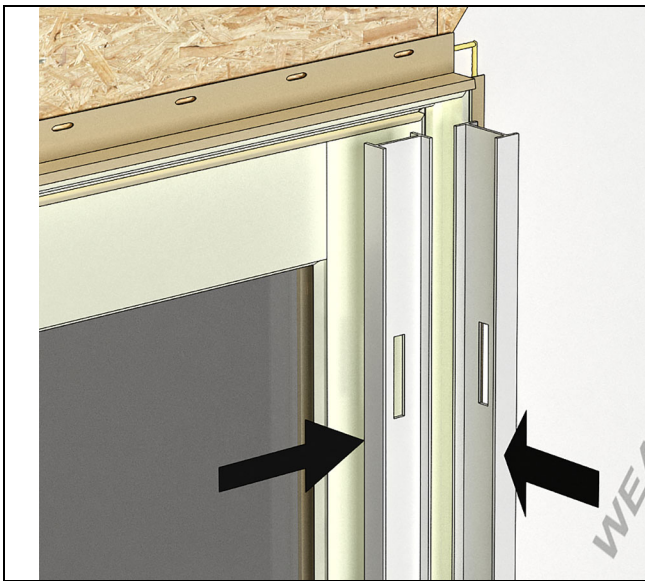

Figure 13
4. Before the sealant is allowed to set up, ensure the jambs are straight and plumb (interior/exterior and left/right). The sill must be level and straight. See Figure 13.